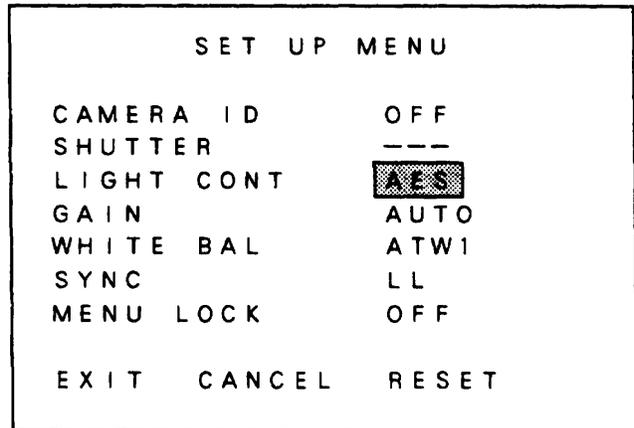
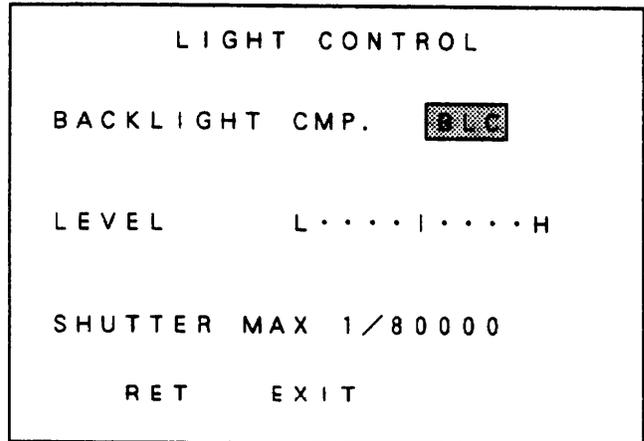

Fig. 7-7
Fig. 7-9
(1) Move the cursor to the position in Fig. 7-7.
(1) On the SETUP menu, get the "AES" highlighted as shown in Fig. 7-7. Press the E switch, and the screen in Fig. 7-9 shows up instead.
(2) Get the "BLC" highlighted as shown in Fig. 7-9. Using the R or L switch, select OFF or BLC.